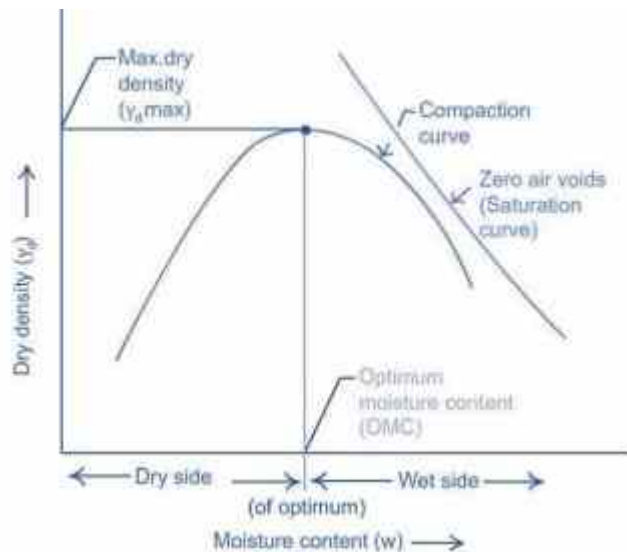

Fig 1: Compaction Curve
Q.1(A). Given Figure. 1 refers to which phenomena of the pavement conditions?